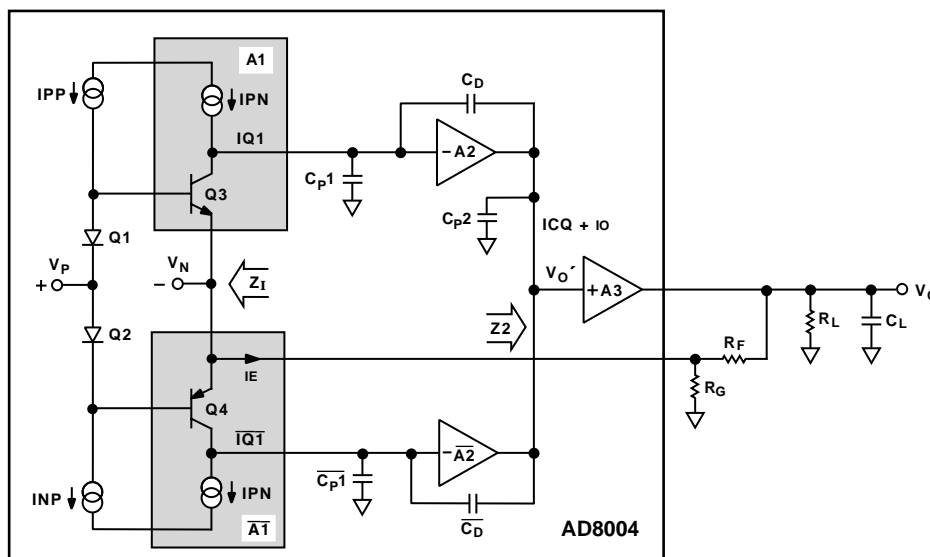

Figure 30. Simplified Block Diagram
The AD8004 is a member of a new family of high speed current-feedback (CF) amplifiers offering new levels of bandwidth, distortion, and signal-swing capability vs. power. Its wide dynamic range capabilities are due to both a complementary high speed bipolar process and a new design architecture. The AD8004 is basically a two stage (Figure 30) rather than the conventional one stage design. Both stages feature the current-on-demand property associated with current feedback amplifiers. This gives an unprecedented ratio of quiescent current to dynamic performance. The important properties of slew rate, and full power bandwidth benefit from this performance. In addition the second gain stage buffers the effects of load impedance significantly reducing distortion.